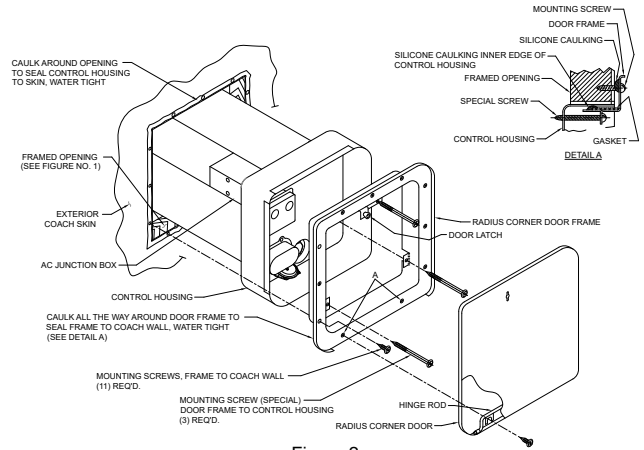
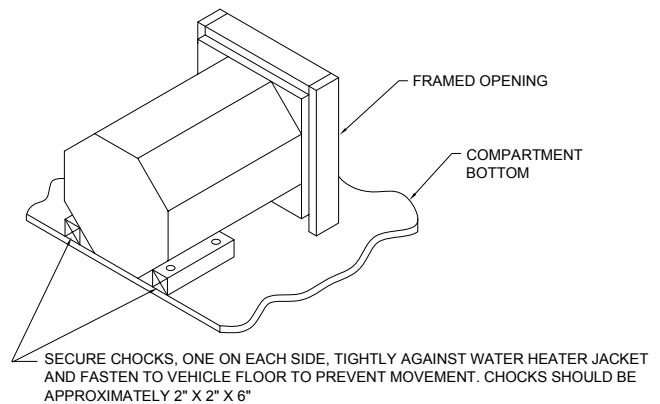

Figure 2
Figure 3
(See Figure 2 for illustration)
- In some limited accessibility applications, the chocks as illustrated in Figure 3 must be installed prior to setting water heater into position. Install chocks, one on each side of water heater, as illustrated in Figure 3.
- Fit the door frame into control housing (over the caulking already applied) and pull frame tight to control housing using the three (3) No. 8-15 x 3 1/2" screws provided.
- Push water heater into framed opening until back side of door frame (now attached to control housing) is against the side of the coach and firmly attach with screws around the perimeter of the frame. **NOTE:** The two (2) holes in bottom of frame identified as "A" in Figure 2 are also used to mount door hinge to the frame.
- If already installed, confirm chocks are supporting the water heater correctly. If not already completed, install chocks, one on each side of water heater as illustrated in Figure 3.
- Refer to Figure 2 for location of A.C. junction box.